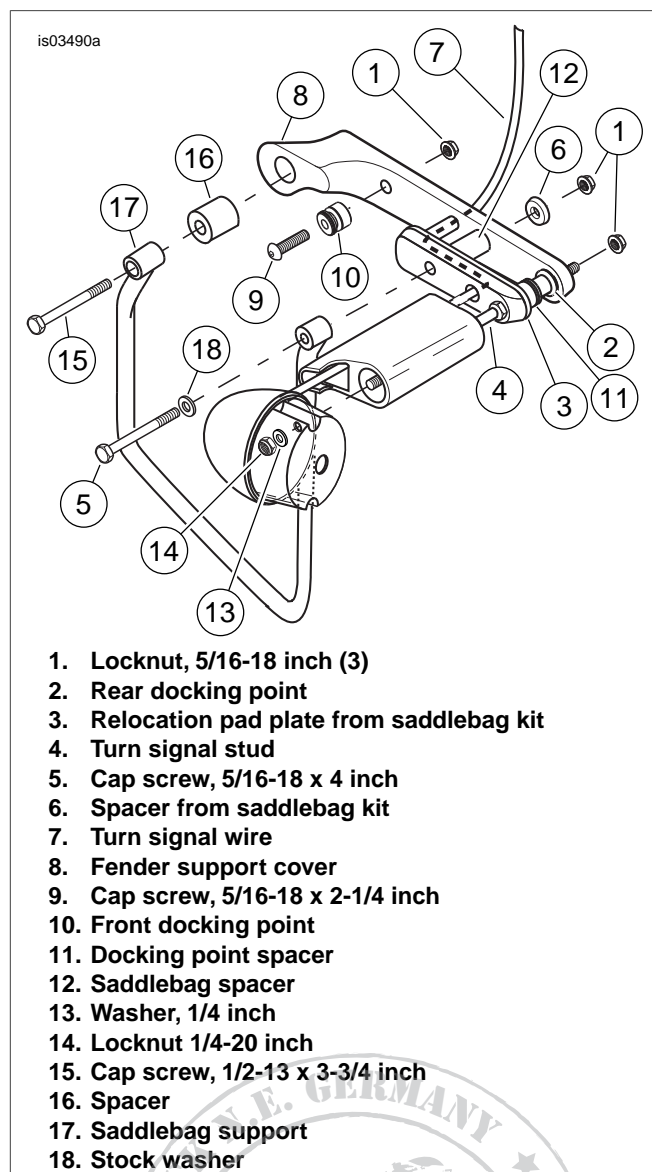

Figure 1. Installation shown on 2000 model
See Figure 1. Before mounting saddlebag supports remove button screw from upper stock mounts, and proceed to Step 2.
See Figure 1. Install saddlebag support according to directions supplied in saddlebag kit making sure to use the spacer (16), and screw (15) supplied in this kit.
*6	Locknuts (2), 3/8-16	7778	14	Locknuts (2) 1/4-20	7686
*7	Washers (4), 3/8	6701	*15	Cap screws (2), 1/2-13 x 3 3/4	3829
*8	Shock mount spacers (2)	90506-98	*16	Spacers	53847-00
*Item numbers 6, 7, and 8 are for installation on 1999 and earlier models. Items 15 and 16 are for installation on 2000 models (See Figure 1).